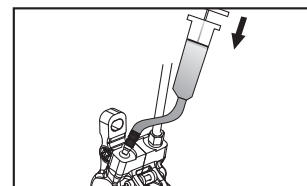

Fig 8e
- Start filling the brake with new mineral oil by slowly pushing the plunger of the syringe. Air bubbles may come out of the reservoir. Continue pushing fluid until you no longer see bubbles coming out of the tube. (Fig 8e)